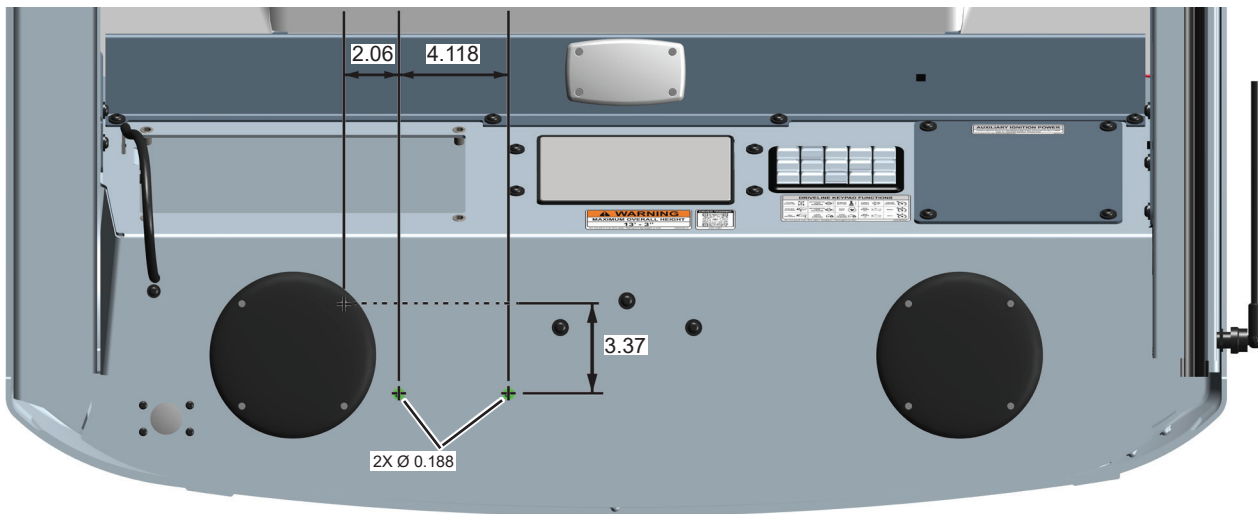

Figure 3
8. Mark and drill two 3/16 inch holes in bottom of overhead console per dimensions in Figure 3.